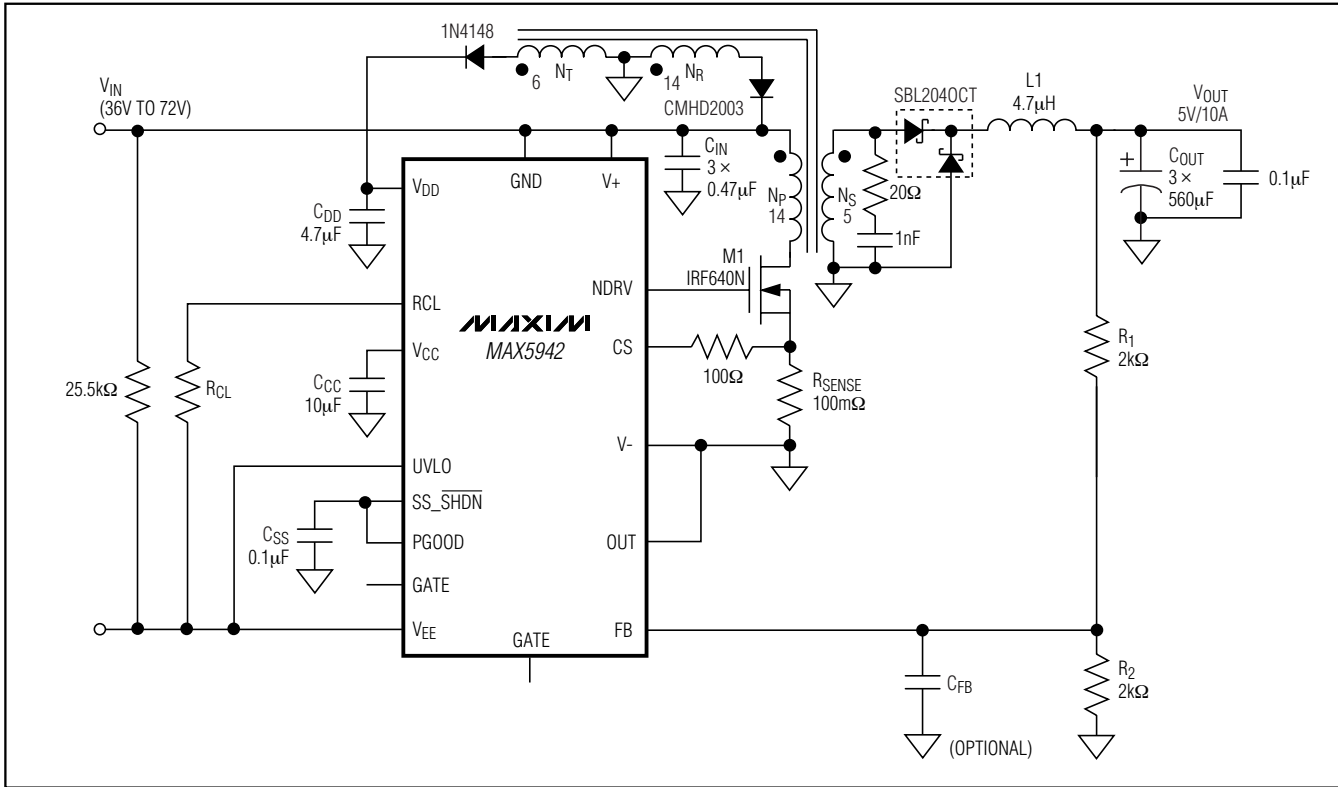

Figure 5. Forward Converter
The current-sense (CS) comparator and its associated logic limit the peak current through the MOSFET. Current is sensed at CS as a voltage across a sense resistor between the source of the MOSFET and GND. To reduce switching noise, connect CS to the external MOSFET source through a 100Ω resistor or an RC low-pass filter (Figures 5, 6). Select the current-sense resistor, RSENSE according to the following equation: